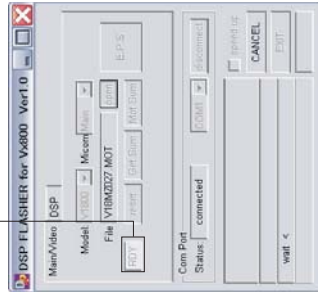

Fig. 7
4. Press the [RDY] button. (Fig. 7)